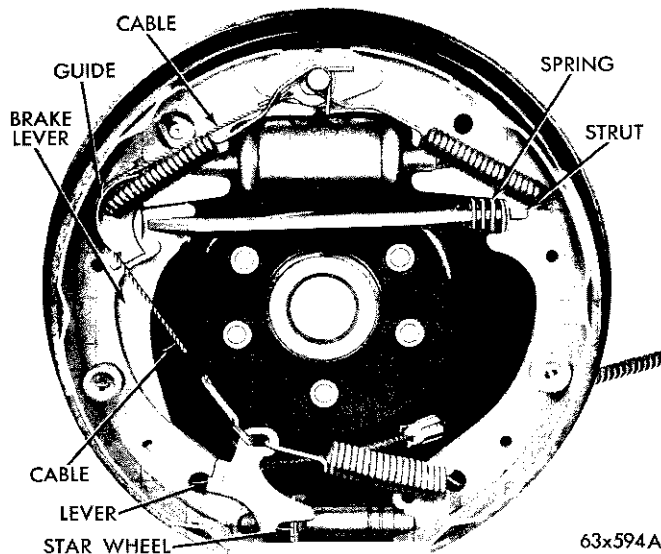

Fig. 7—Brake Assembly (Rear)
(3) Remove the brake shoe retainer, spring and nails (Fig. 7).
(4) Remove the anchor pin plate and tilt the brake shoe assembly out from the brake support.
(5) Spread the anchor ends of the primary and secondary shoes and remove the parking brake strut and spring.
(6) Disengage the parking brake cable from the parking brake lever and remove the brake assembly.
(7) Overlap the anchor ends of the primary and secondary shoes and remove the adjusting star, adjusting lever, adjusting spring, cable and cable guide.
(1) Inspect the platforms of the support for nicks or burrs. Apply a thin coat of lubricant to the support platforms.
(2) Attach the parking brake lever to the back side of the secondary shoe (Fig. 7).
(3) Place the secondary and a primary shoe in their relative position on a work bench.
(4) Lubricate the threads of the adjusting screw and install it between the primary and secondary shoes